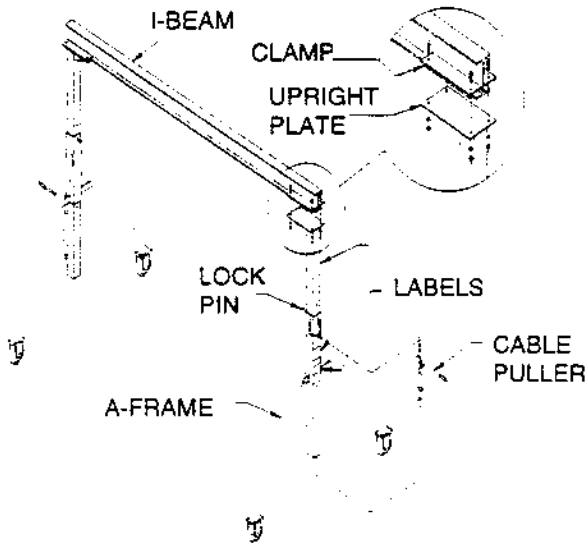
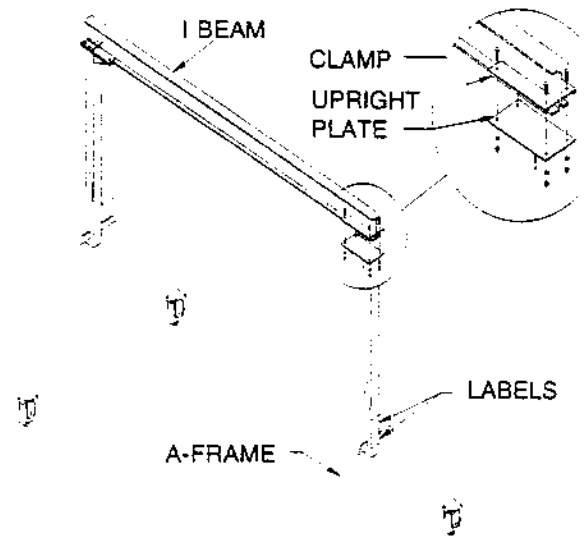

Figure 1
Figure 2
WARNING! USE EXTREME CARE WHEN ASSEMBLING, ADJUSTING (FIGURE 1) AND USING THE GANTRY CRANE.
1. Lay the "V" end of one (1) A-Frame on a small wooden block with the warning labels facing down.
2. Remove two (2) clamping bars from the upright plate of (1) upright (see figure 1).
9. Carefully raise one (1) A-Frame to a vertical position and position the upright plate to the end of the I-Beam per figure 1 & 2. (NOTE: THE WARNING LABELS SHOULD BE ON THE OUTSIDE OF THE A-FRAME); One (1) person should hold the assembly steady.
10. Adjust the height of the I-Beam to suit the vertical A-Frame upright (figure 1) or vertical A-Frame (figure 2) assembly height.
11. Using a stepladder or lift platform, a second person shall place two (2) clamping bars on the flanges of the I-Beam, aligning the four (4) holes in the clamps, I-Beam and upright plate per figure 1 or 2.
12. Hand tighten the four (4) bolts, lockwashers and nuts, then wrench tighten the hardware to 80-90 ft./lbs.
13. Repeat steps (9) thorough (12) to complete the assembly of the opposite end of the I-Beam to the second upright.
1. Steps (2) through (10) shall be performed simultaneously on the two (2) A-Frame/upright assemblies (i.e. (2) persons required)
3. Position the cable puller base against the A-Frame so that the handle protrudes out and downward (see figure 1).
- 4b. Lift handle to it's maximum height so that the drive pawl on the handle presses against a spring-loaded stop pawl; this action lowers the hook one (1) notch.
5. Engage the lower cable puller hook into the bottom of the upright (see figure 1).